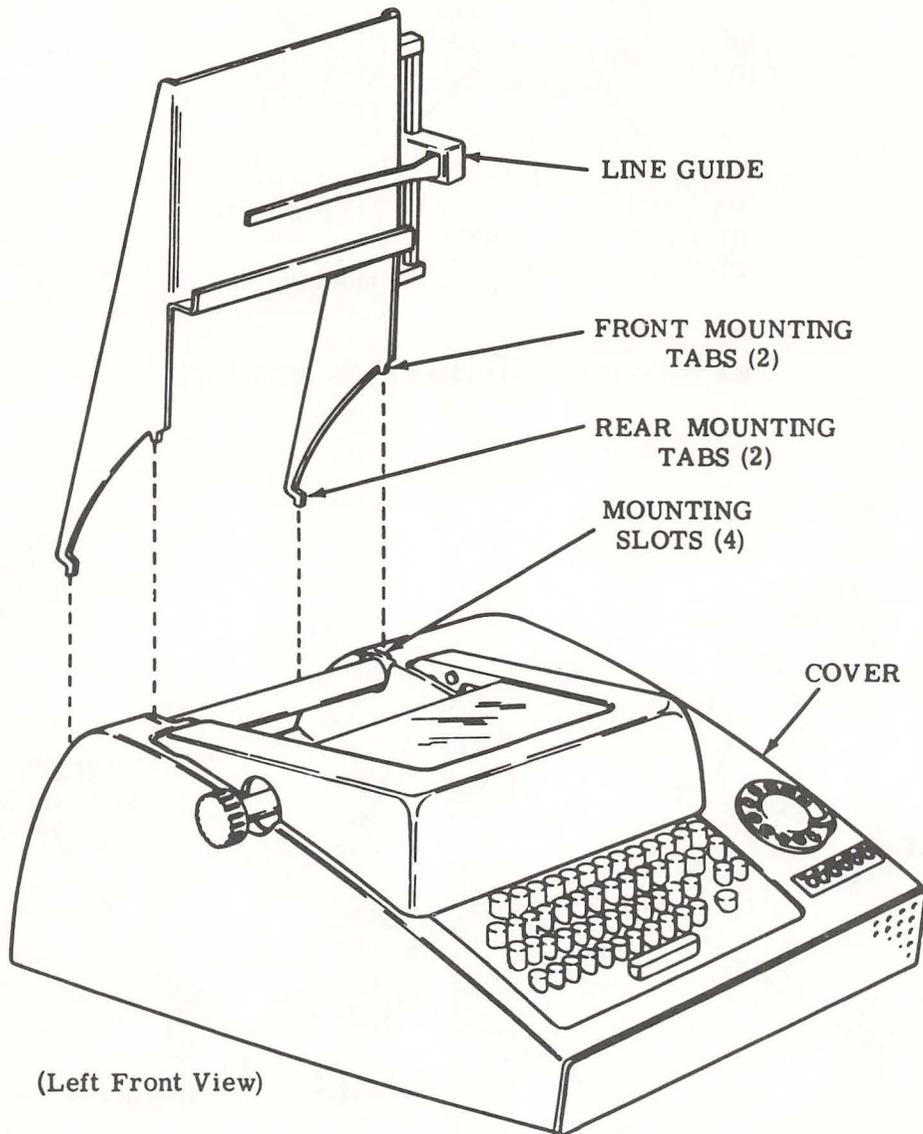

Figure 10 - Copyholder
4.01 With the line guide facing forward (Figure 10), insert the rear mounting tabs in the lower mounting slots. Pivot the copyholder to align the front mounting tabs above their mounting slots. Push copyholder downward until the tabs are fully seated.